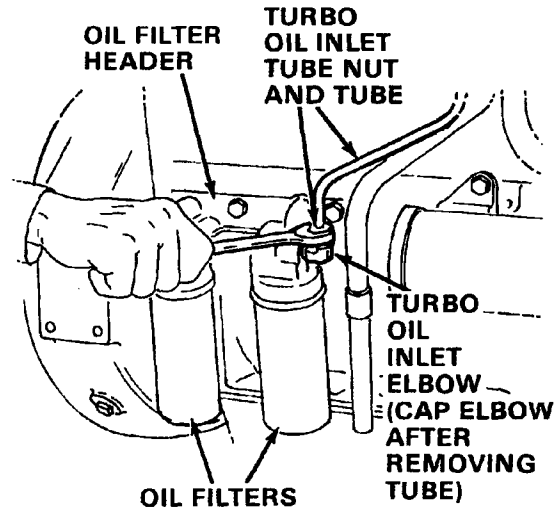

Figure 2.5. Removing Turbocharger Oil Inlet Tube and Sleeve at Oil Inlet Elbow
2. Disconnect and remove turbo oil inlet tube assembly at filter header. (See Figures 2.5 and 2.6.)
- a. Remove tube nut at oil filter header. (See Figure 2.5.)